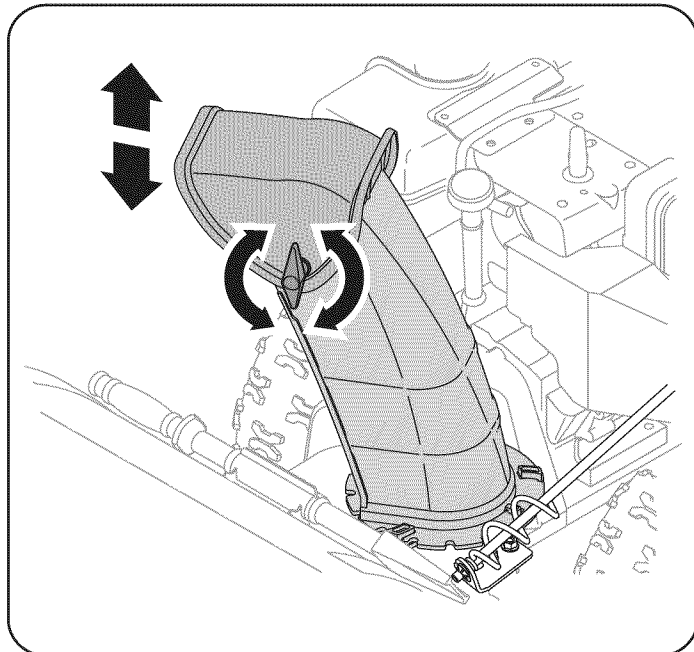

Figure 9
2. Pivot the chute upward or downward before retightening the wing knob. See Figure 9.